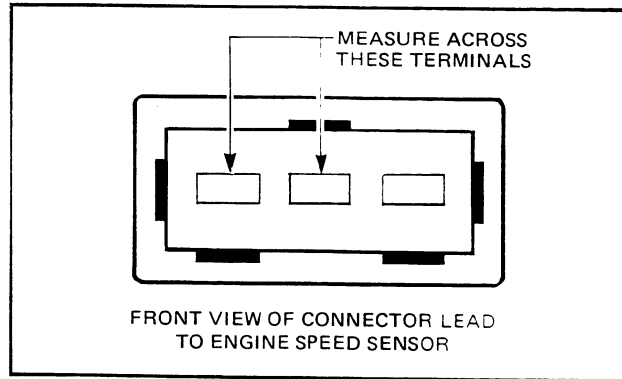

Figure 6D-53
1. Disconnect sensor wiring harness connection, at the fuse box side of the rocker cover. Refer Fig. 6D-53A.
2. Connect an ohmmeter across sensor terminals shown in Fig. 6D-53. Resistance should be in the range of 1 to 1.2 k Ω . Any deviation in the resistance value than specified the sensor is considered faulty and must be replaced.
2. Disconnect engine speed sensor wiring harness connection, at the fuse box side of the rocker cover. Refer Fig. 6D-53A.